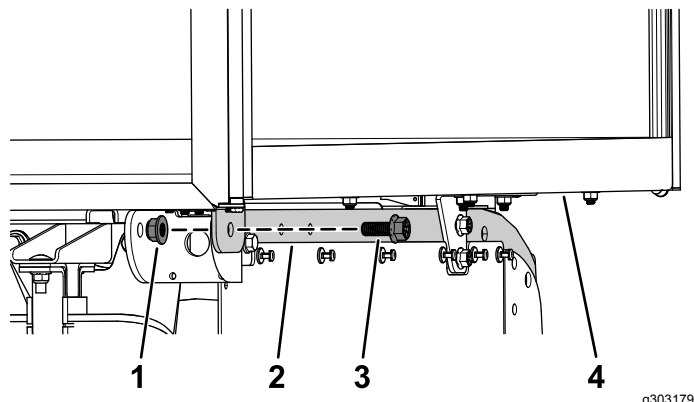

Figure 8
- Secure the rear of the utility van box to the rear of the frame tubes using a flange-head bolt (1/2 x 1-1/4 inches) and a flange nut (1/2 inch) on each side (Figure 8).